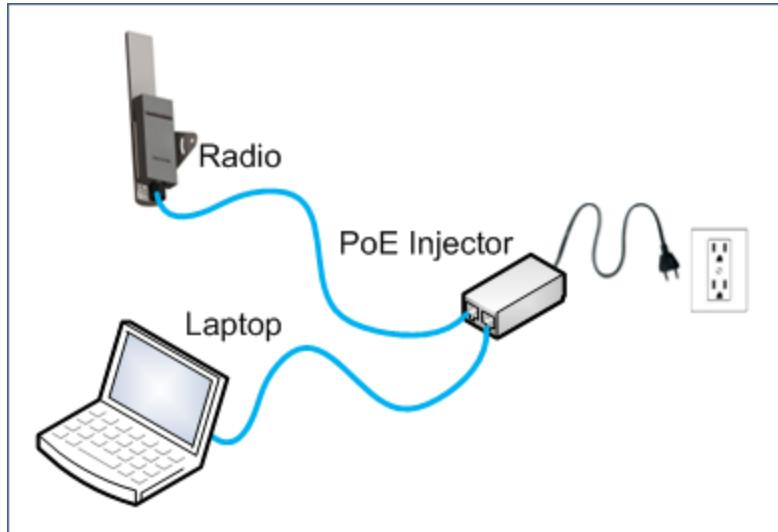

Figure 3–16 Fluidmesh Radio Private Network
**3** Connect the components (see *Figure 3–16 Fluidmesh Radio Private Network on page 47*):